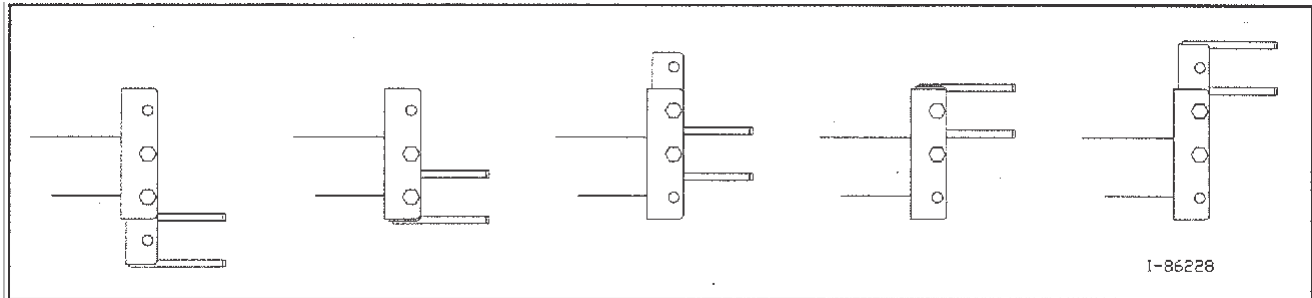

Figure 2A - Adjusting the Hitch Position
2. Refer to Figure 2A. Determine the spreader hitch position required to allow the spreader to remain parallel to the ground with relation to the towing vehicle.
NOTE: As shown in Figure 2A, the adjustable hitch on the front of the spreader may be positioned in a number of ways, by sliding up/down or inverting, to achieve higher or lower positioning.